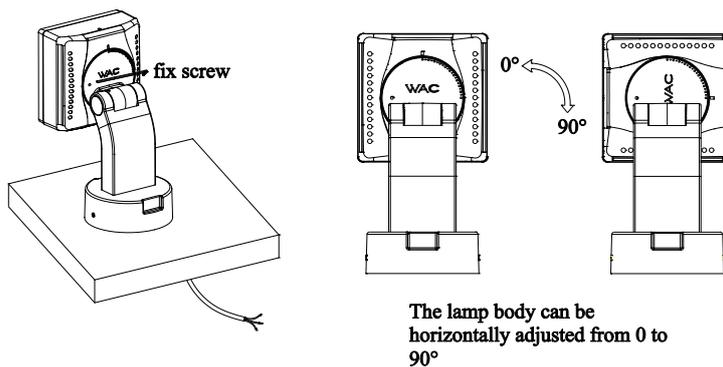

Figure 4
- The lamp body can be adjusted horizontally from 0 ° to 90 ° (counterclockwise). Loosen the fixing screws on the lamp body, adjust the lamp body counterclockwise, and adjust the angle horizontally from 0 ° to 90 °. After adjustment, tighten the fixing screws (as shown in Figure 4);